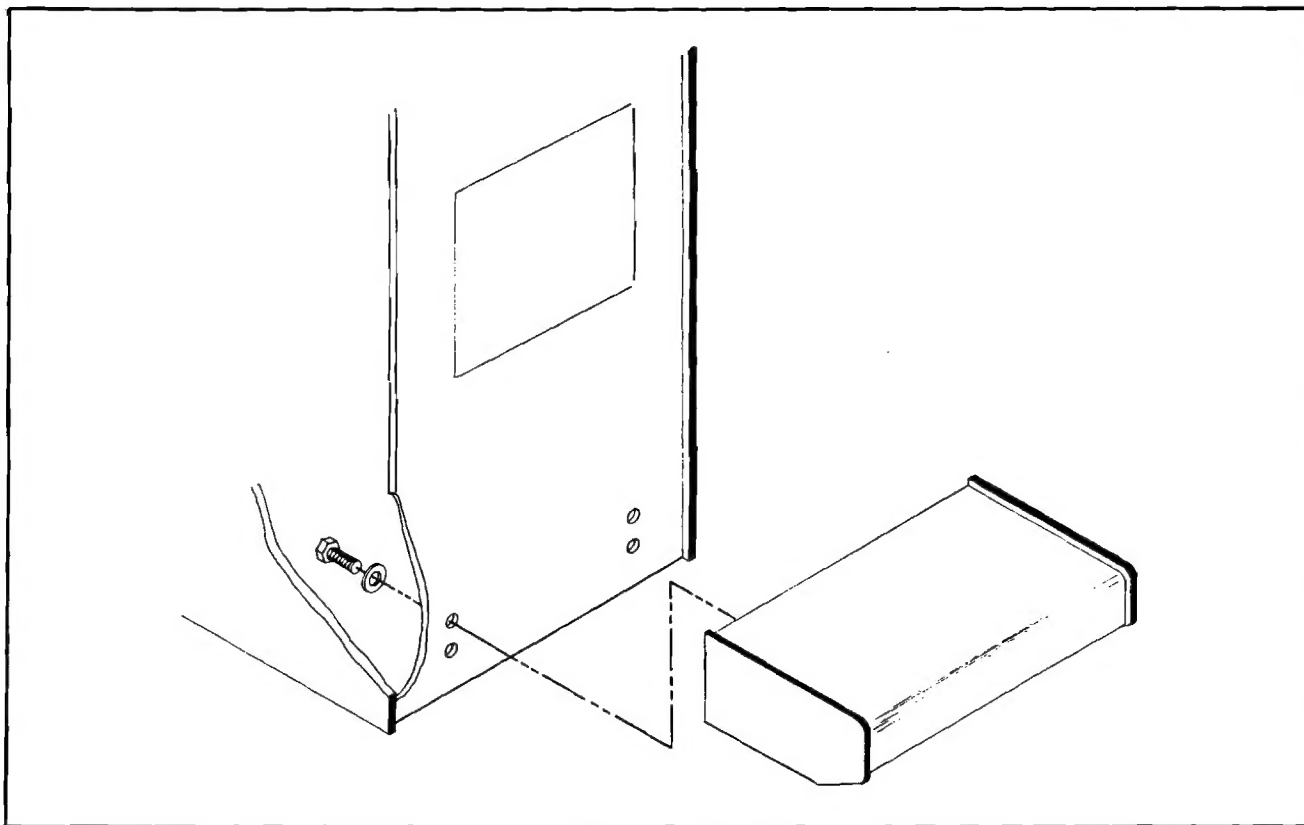

Figure 1-1 Installing the Footstool
5. After you have installed the game's Leg Levelers, if desired, you may now install the game's FOOTSTOOL. See Figure 1-1. This is accomplished by: